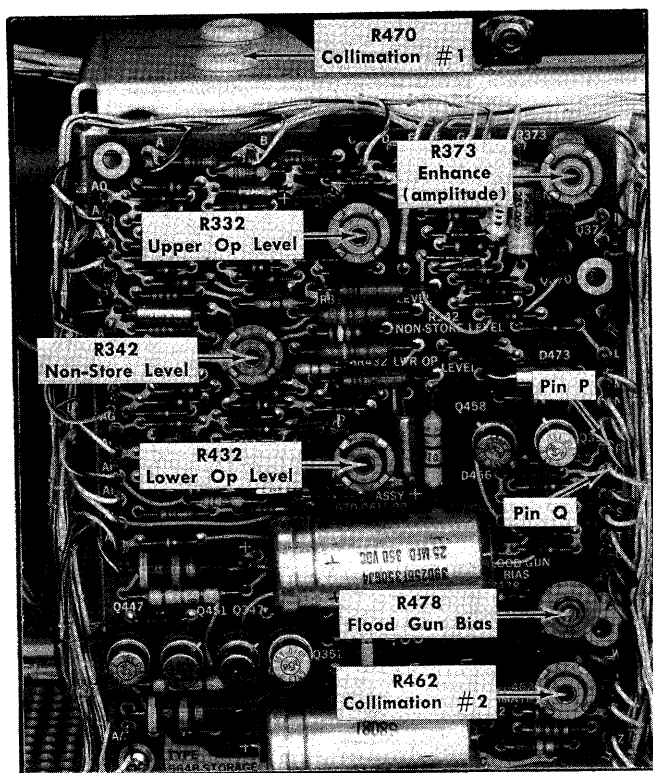
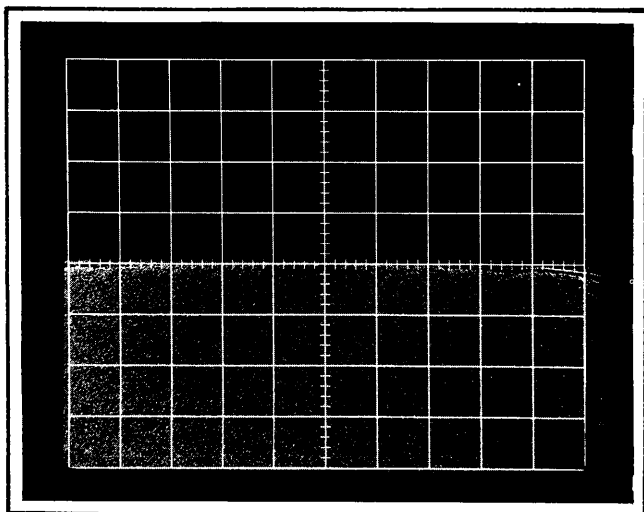

Fig. 5-22. Location of storage controls and test points.
Fig. 5-26. Typical CRT display showing correct adjustment of R342, Non-Store Level.
d. With the screen fully written, rotate R478, Flood Gun Bias (Fig. 5-22), fully counterclockwise. Note the shadows at the corners of the screen (Fig. 5-23A).
c. With the screens fully written, rotate R470, Collimation #1 (Fig. 5-22), fully counterclockwise, then clockwise to the point where the screens just begin to brighten.
d. Rotate R462, Collimation #2 (Fig. 5-22), fully counterclockwise.
a. Connect a DC voltmeter, set to the 300-volt range, between pin P of the Storage board (see Fig. 5-22) and ground.
c. Rotate R332, upper screen Op Level (Fig. 5-22), fully counterclockwise and then note the voltmeter reading.
h. Connect the DC voltmeter, set to the 300-volt range, between pin Q of the Storage board (see Fig. 5-22) and ground.
j. Rotate R432, lower screen Op Level (Fig. 5-22), fully counterclockwise and note the voltmeter reading.
- d. When locating the operating point for each target as outlined in the following steps, connect the DC voltmeter to pin P and adjust Op Level R332 for the upper target, and connect the DC voltmeter to pin Q and adjust Op Level R432 for the lower target. These controls and test points are shown in Fig. 5-22.
- b. ADJUST—R342, Non-Store Level (Fig. 5-22), for the best division between the two screens, with no background glow on the upper (non-stored) screen. See Fig. 5-26.
- d. Rotate R373, Enhance (Fig. 5-22), fully counterclockwise.